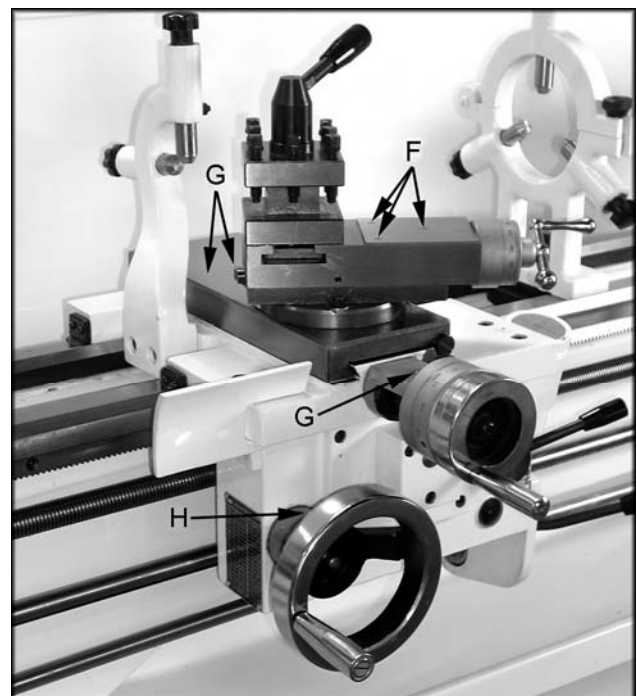

Fig. 6
9. **Compound Rest** - Lubricate three ball oilers (F, Fig. 6) once daily with Mobil DTE® Oil Heavy Medium.
10. **Cross Slide** - lubricate four ball oilers (G, Fig. 6) once daily with Mobil DTE® Oil Heavy Medium.
11. **Longitudinal Feed Handwheel** - Lubricate ball oiler (H, Fig. 6) once daily with Mobil DTE® Oil Heavy Medium.